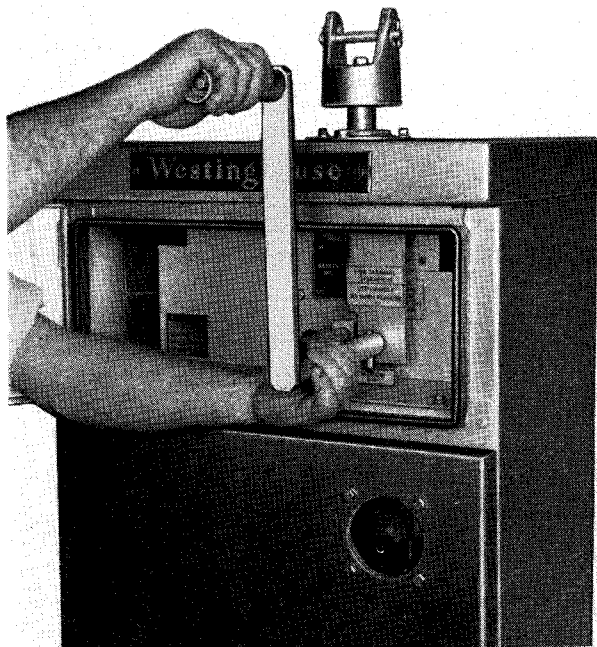

FIG. 5. Manual Operating Handle on Clutch Operating Shaft
slot and turn $\frac{1}{4}$ turn clockwise so that the yellow pointer indicates the **MANUAL** position. Fig. 5.
2. Insert the slotted end of the handle over the clutch operating shaft, engage pointer pin in the slot of the handle, and turn handle $\frac{1}{4}$ turn clockwise so that the yellow pointer indicates the **MANUAL** position. See Fig. 5.
11. Remove manual operating handle from the upper shaft and insert it over the clutch operating shaft. Restore motor mechanism to the MOTOR position by turning the handle $\frac{1}{4}$ of a turn counterclockwise. See Fig. 5.